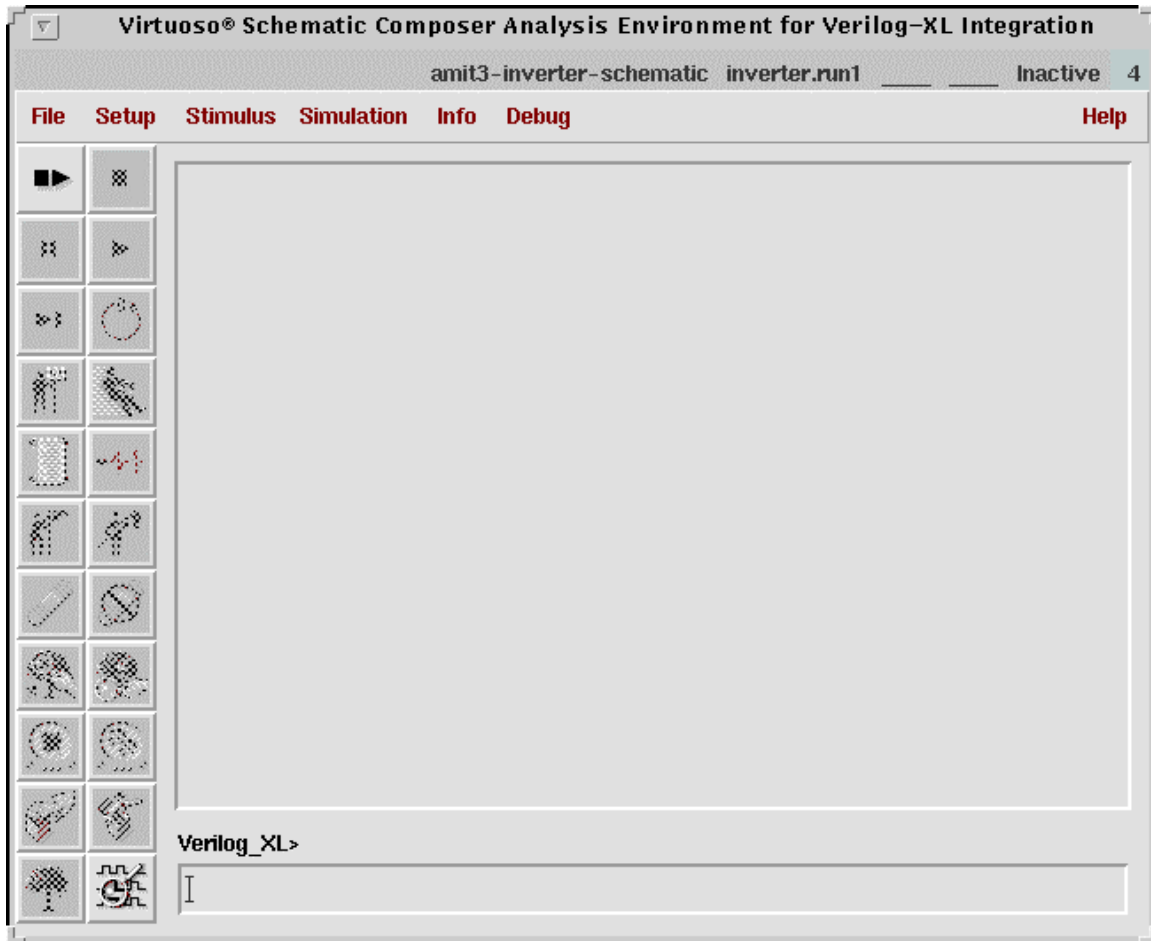

Fig 4: Environment for Verilog-XL Integration
- c. The “Virtuoso Schematic Composer Analysis Environment for Verilog-XL Integration” window opens as shown in Fig 4 and the inverter.run1 directory is created.
- a. In Fig 4 set the netlisting options by selecting **Setup** -> **Netlist**. The “Verilog Netlisting Options” form opens as shown in Fig 5.